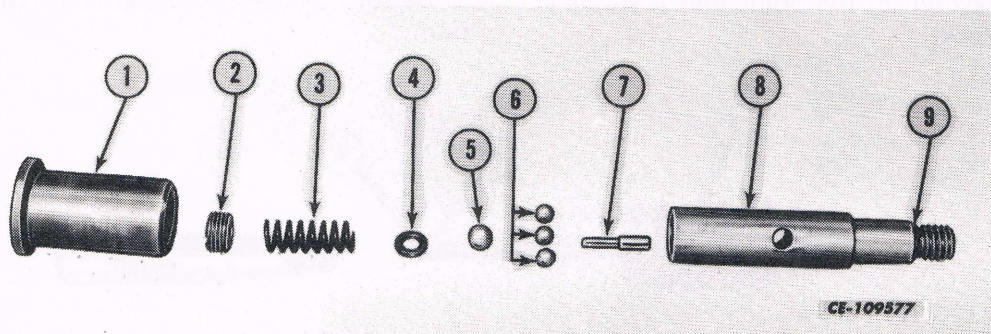

Fig. 46
5. To disassemble the detent assembly, remove the adjusting screw (2), spring (3), washer (4) and balls (5 and 6) out. Push the piston (7) out with a long, thin punch. See Fig. 46.